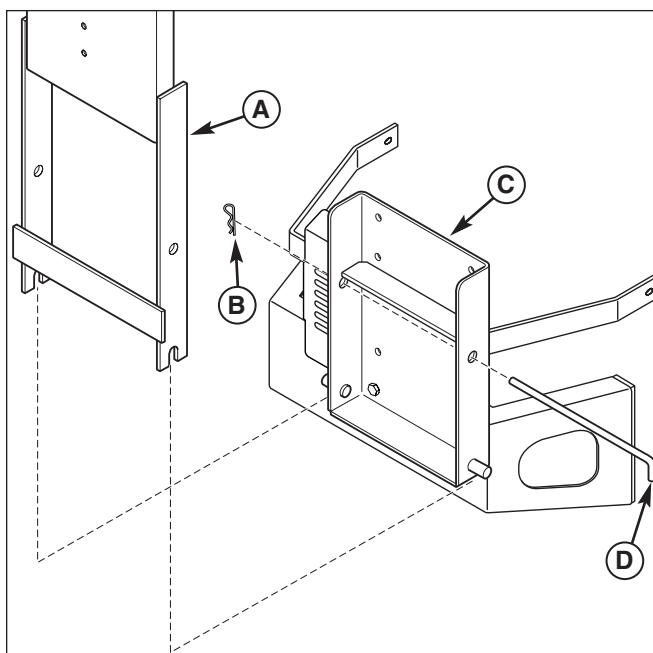

Figure 10. Install Back Plate
4. **Warning: Back plate (A) will fall when rod (D) is removed.** Remove the hair pin (B, Figure 10) and rod (D) while holding back plate (A).
5. Lift back plate & support assembly (A, Figure 10) off hitch plate (D).